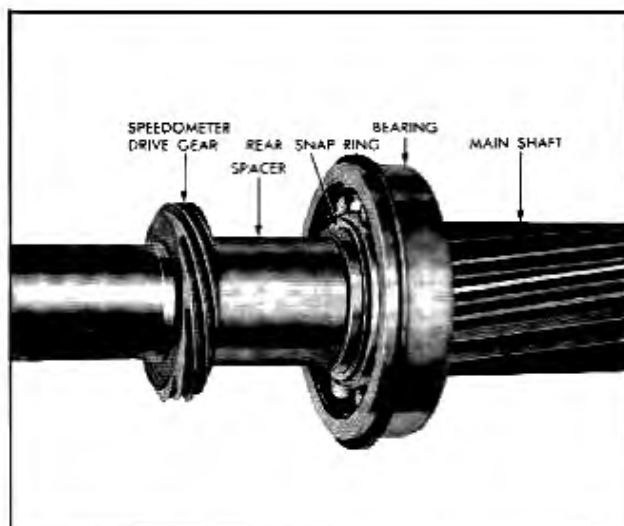

Fig. 7-25 Transmission Main Shaft Assembly
6. Press speedometer drive gear (Fig. 7-25) on shaft against spacer using tool J-6133-A.